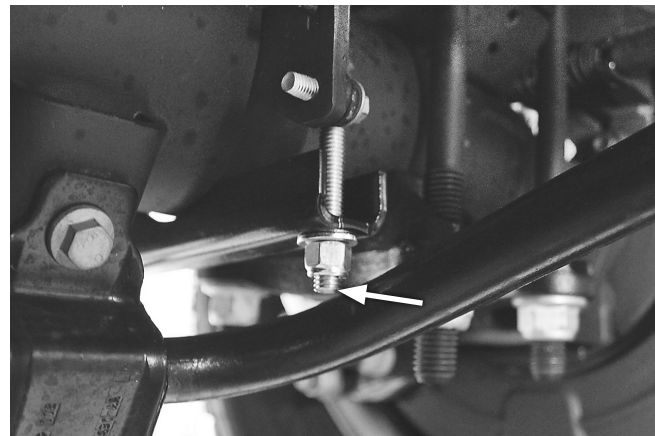

Fig. 44
- If necessary, on vehicles that have a sway bar, cut the carriage bolt off just below the nut so it does not contact the sway bar (Fig. 44).